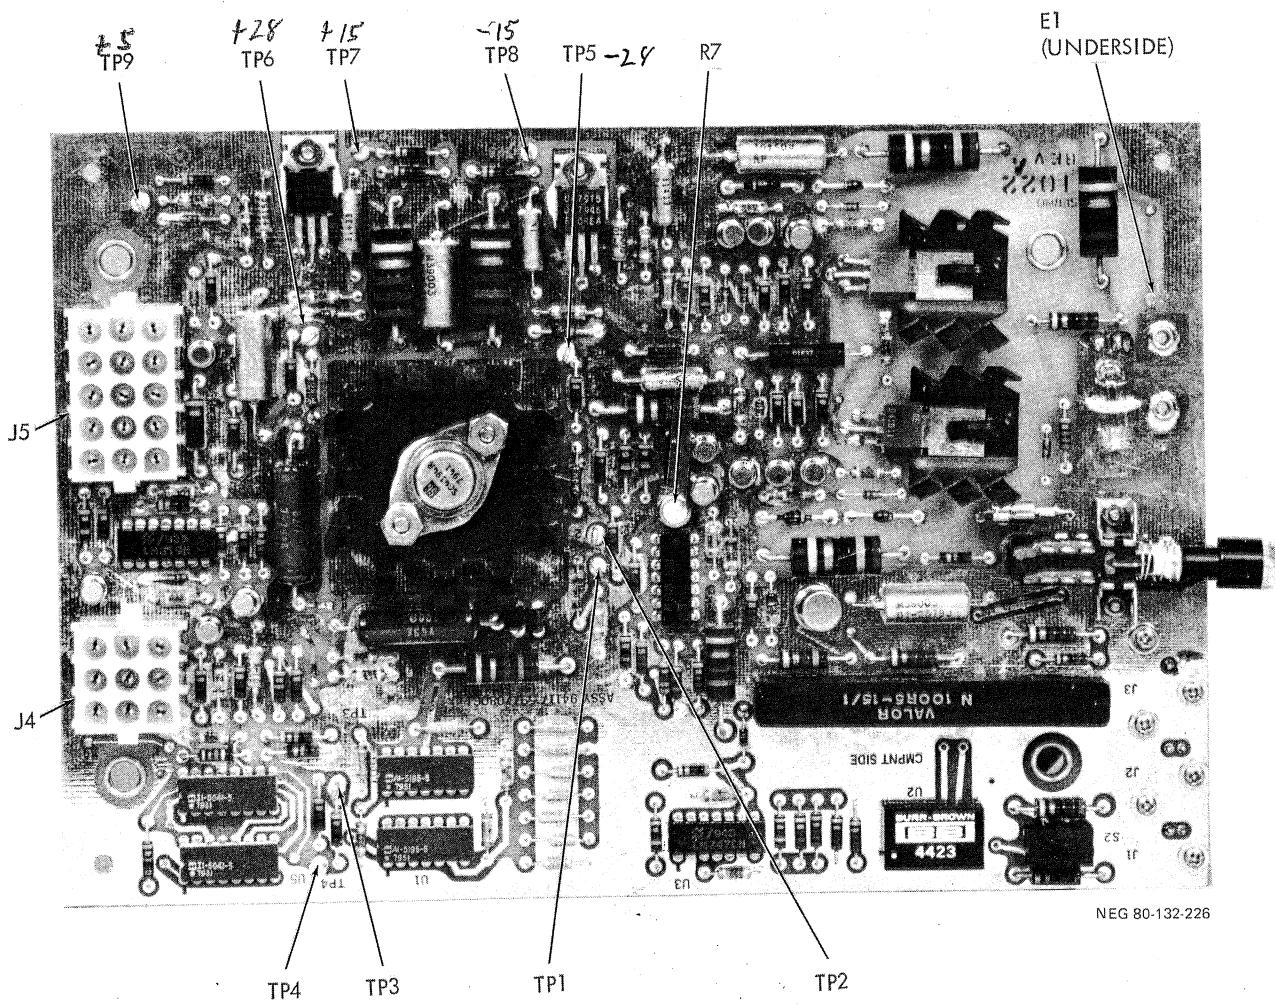

Figure 5-1. Video CCA
3. Using oscilloscope or digital multimeter, measure CRT cathode voltage at E1 connector (underside of video amplifier board). Adjust R7 on video amplifier board until cathode voltage is +20.0V. See figure 5-1.
5.4.3.1 Video CCA (See figure 5-1.)